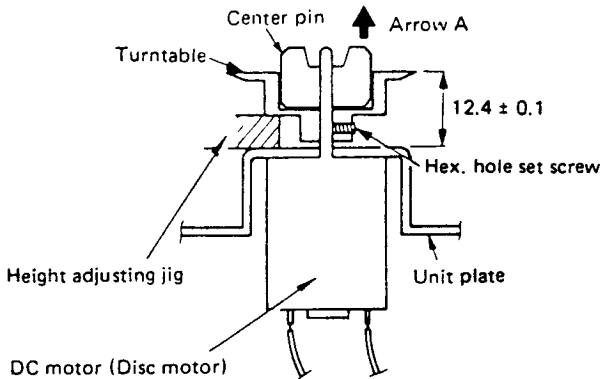

Fig. 22
- 3) When replacing the DC motor, take care not to apply excessive force in the direction of arrow B. Doing so may deform unit plate C, resulting in deteriorated eye pattern. (Fig. 22)